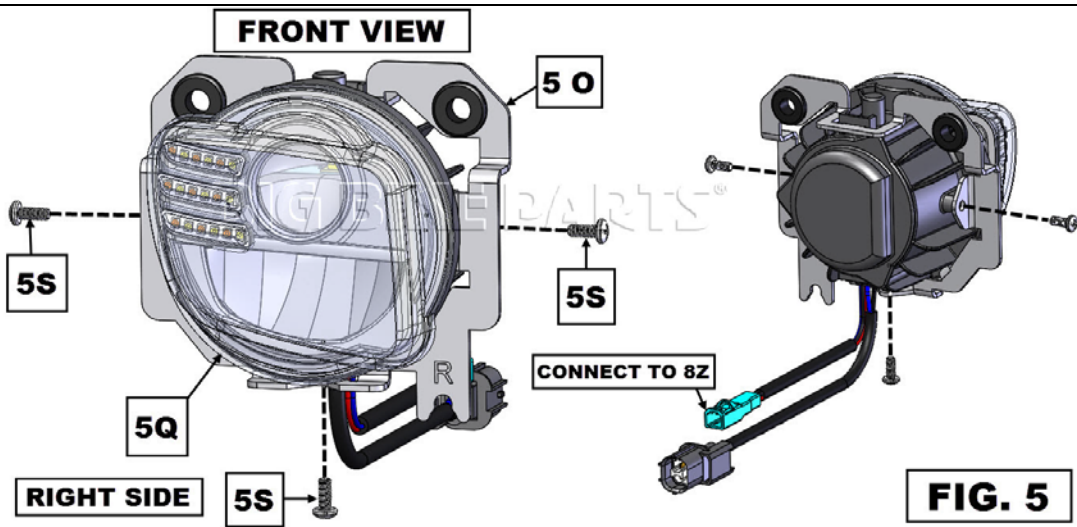

FIG. 5
- TAKE THE RIGHT LED LIGHT (5Q) AND ATTACH THE RIGHT LIGHT BRACKET (5O) TO IT USING THREE OF THE M4 X 10MM PAN HEAD SCREWS (5S). SEE FIG. 5.
- UNPLUG THE CONNECTOR IN EACH MIRROR AND ADD IN THE NEW HARNESS AS SHOWN IN FIG. 9. CONNECT THE OTHER END TO EACH FOG LIGHT. SEE FIG. 5.